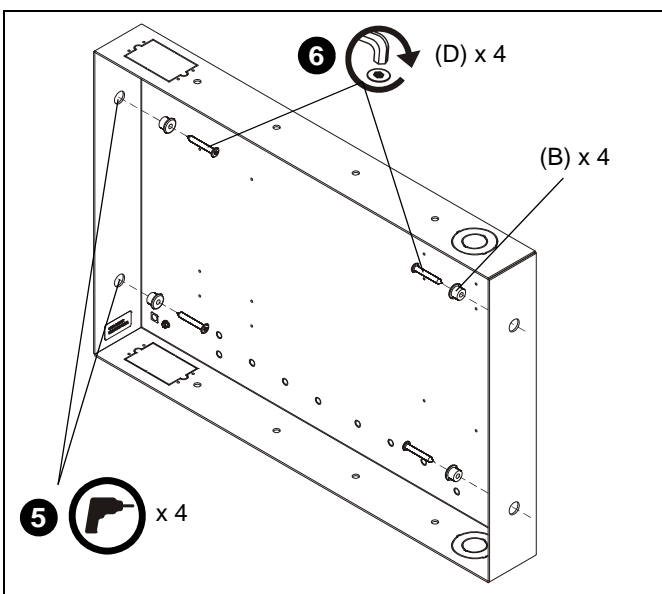

Figure 4
- Drill four 3/16" diameter pilot holes in studs at side mounting holes. (See Figure 4)
- Attach the PAC502 (A) to side studs using four M7 x 50mm Allen head connector screws (D) and mounting spacers (B) using an M4 Allen head drill bit (F). (See Figure 4)